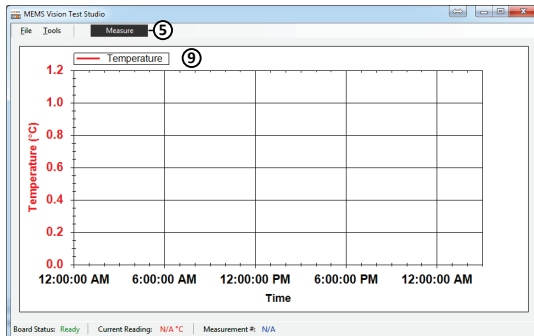

Fig. 2 MEMS Vision Test Studio software interface.
1. Connect the board USB port ② to a PC using the supplied USB cable, and ensure that the power switch ③ on the board is in the *USB* position. The *USB LED* ④ will light up.
2. Run the MEMS Vision Test Studio software package and click the *Measure* button ⑤ (Fig. 2). The *Measuring indicator* ⑥ will blink whenever data is being captured.